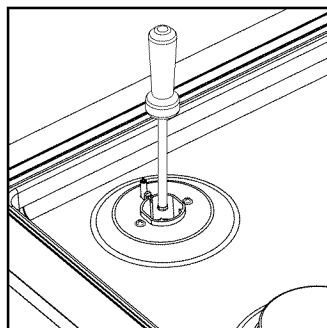

figure 1
- 4 Unscrew the orifices (save for future use) and replace them with the correct ones (size numbers are stamped on the side, eg 70= 0.70 mm) (see fig. 1).